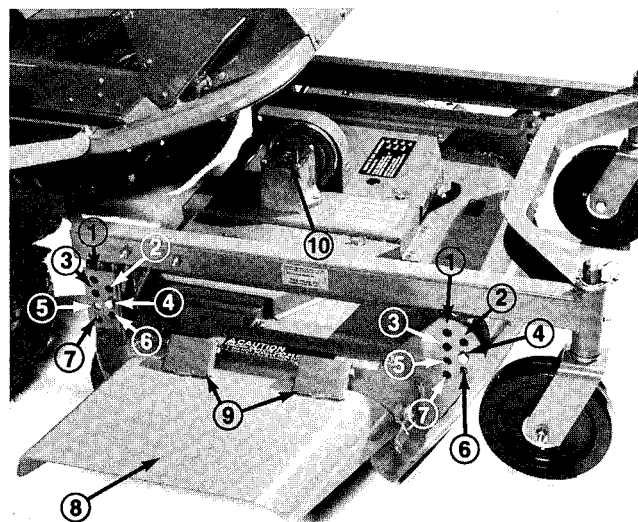

Figure 5
The height-of-cut is adjustable from 1 to 4 inches (25 to 102 mm) in 1/2 inch (13 mm) increments by relocating four clevis pins in different hole locations in brackets at each corner of the cutting unit (Fig. 5).
The grass deflector (Fig. 5) is a safety device that diverts grass and other foreign objects being discharged downward. Without deflector mounted in place on the cutting unit and spring loaded hinges holding deflector in down position, the blades could hurl grass and foreign objects out the discharge opening with enough force to cause injury or property damage. If the grass deflector or spring hinges are worn, broken or damaged, repair or replace the affected part(s). Never operate cutting unit without deflector mounted on the cutting unit. Always be sure the deflector chute is in the lowest possible position.
2. After every 50 hours of operation, lower cutting unit so castor wheels are on a level surface. Be sure all height-of-cut pins are in the same hole locations. Clean area around gear box cover (Fig. 5) to prevent contaminants from entering gear box. Remove screws securing cover to gear box and remove cover. Check level of lubricant in gear box. If level of lubricant is low, add SAE E.P. 90 wt. oil until oil level is up to horizontal shaft (input) of gear box. Check condition of gasket and replace if damaged or worn.